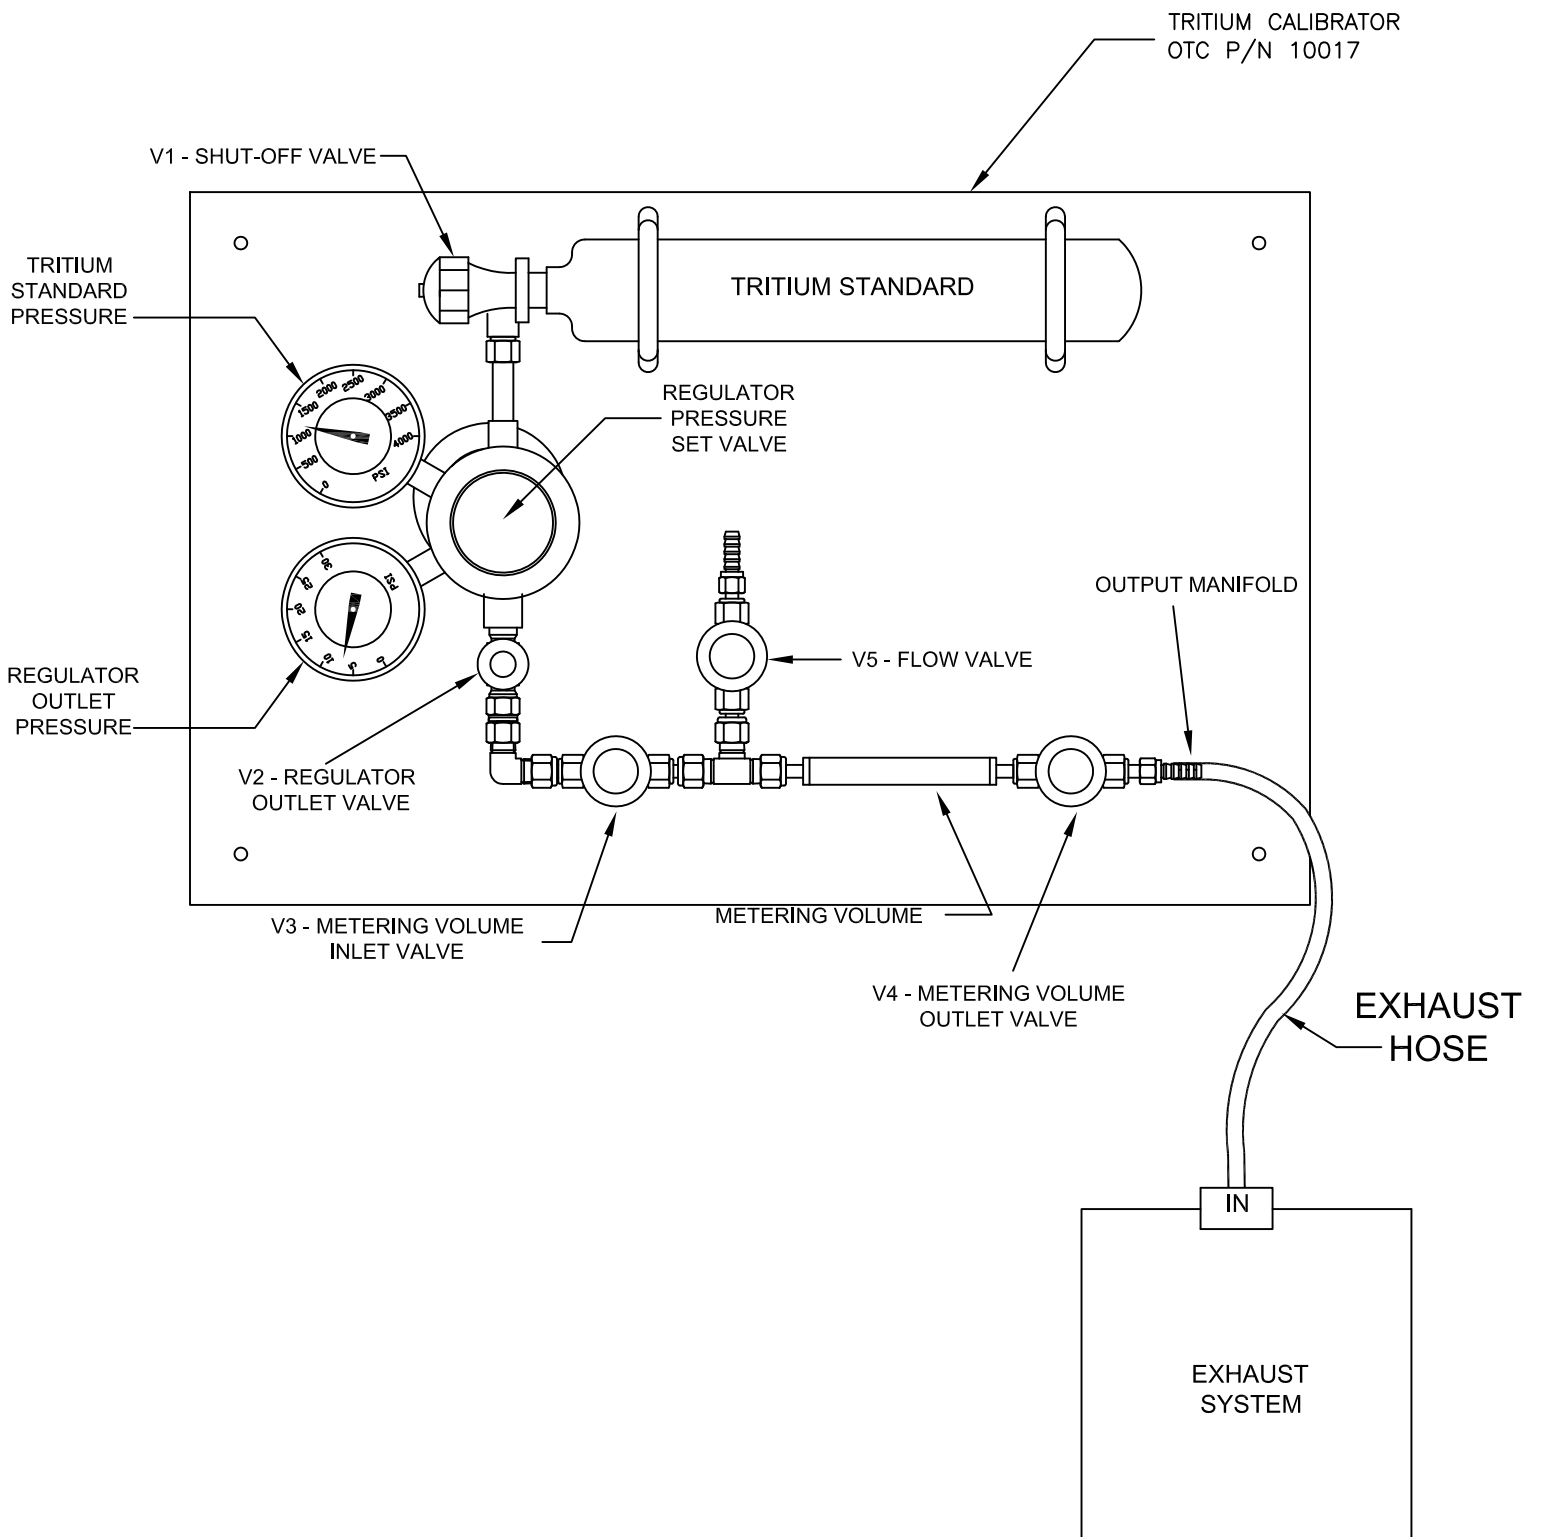

FIGURE 1
All components are mounted on a flat plate for rigidity and ease of storage, see Figure 1.
- a. Ensure that all five valves on the Tritium Calibrator are closed finger tight, see Figure 1. They are as follows:
- b. If the Tritium Calibrator is to be purged indoors, connect the output manifold to an external exhaust hose. See Figure 1